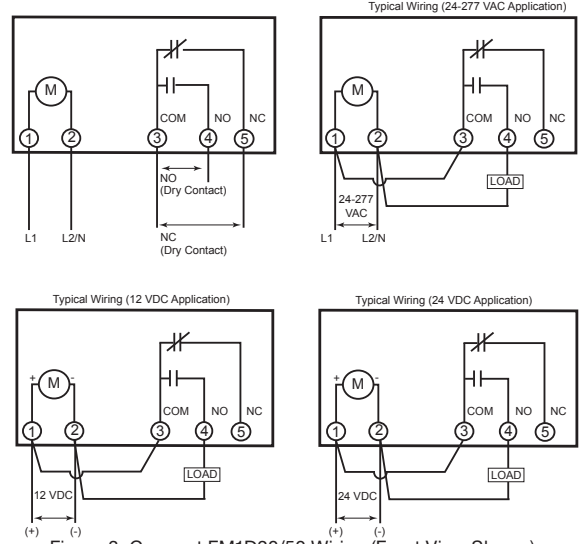

Figure 3. Connect FM1D20/50 Wiring (Front View Shown).
3. Connect the FM1D20/50 wiring. See Figure 3 for reference.